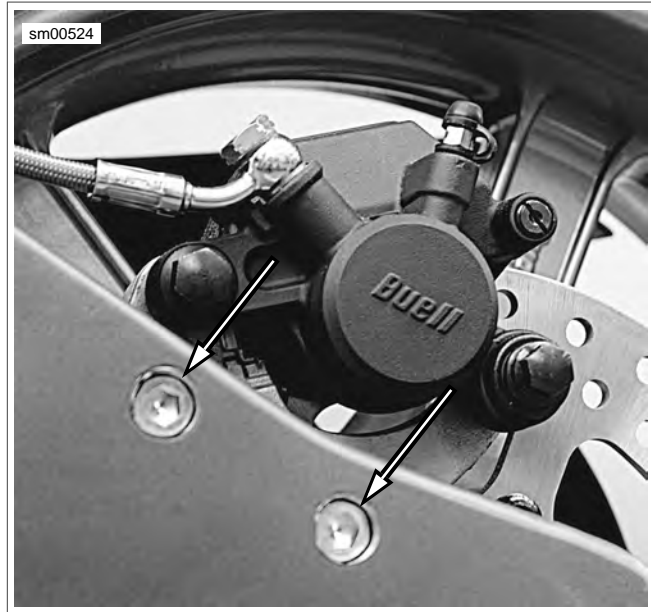

Figure 2-24. Rear Brake Caliper Carrier Fasteners
10. See Figure 2-24. Install caliper carrier and tighten fastener to 24-26 ft-lbs (32-35 Nm). See 2.14 REAR BRAKE CALIPER.